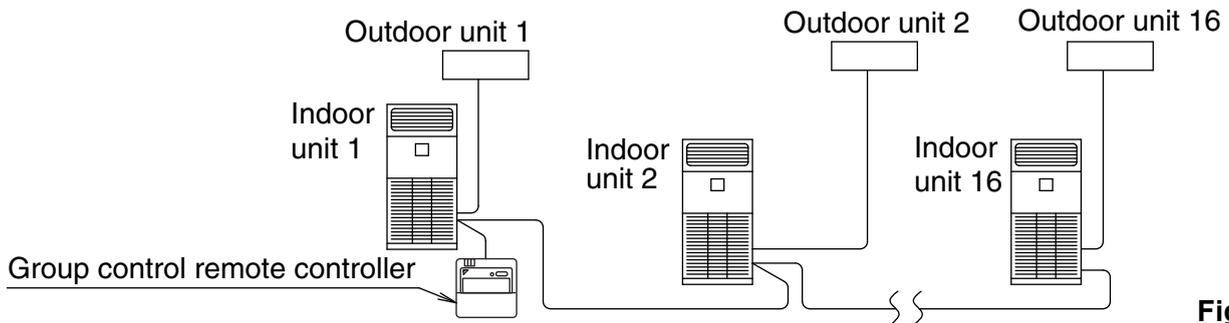

Fig. 36
- When using as a pair unit, you may carry out simultaneous start/stop (group) control up to 16 units with the remote controller. (Refer to Fig. 36)